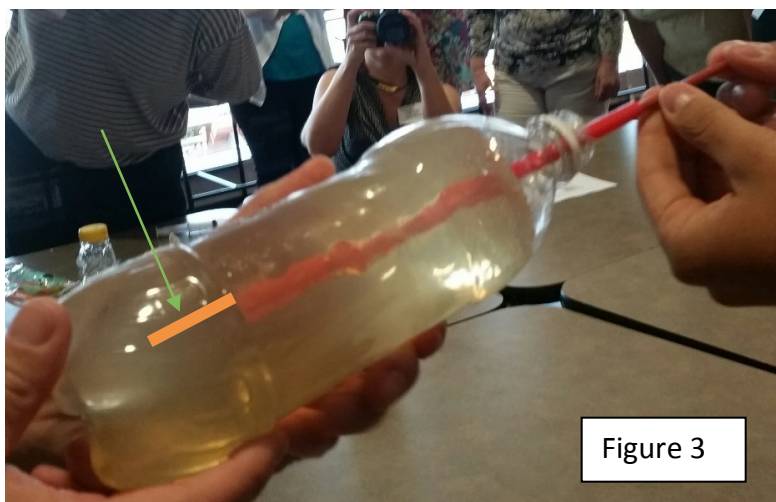

Figure 3
- Remove the binder clip and insert the catheter tubing into the straw, or well casing, until the tube extends past the borehole straw approximately 3 cm. into the gelatin (see Figure 3).